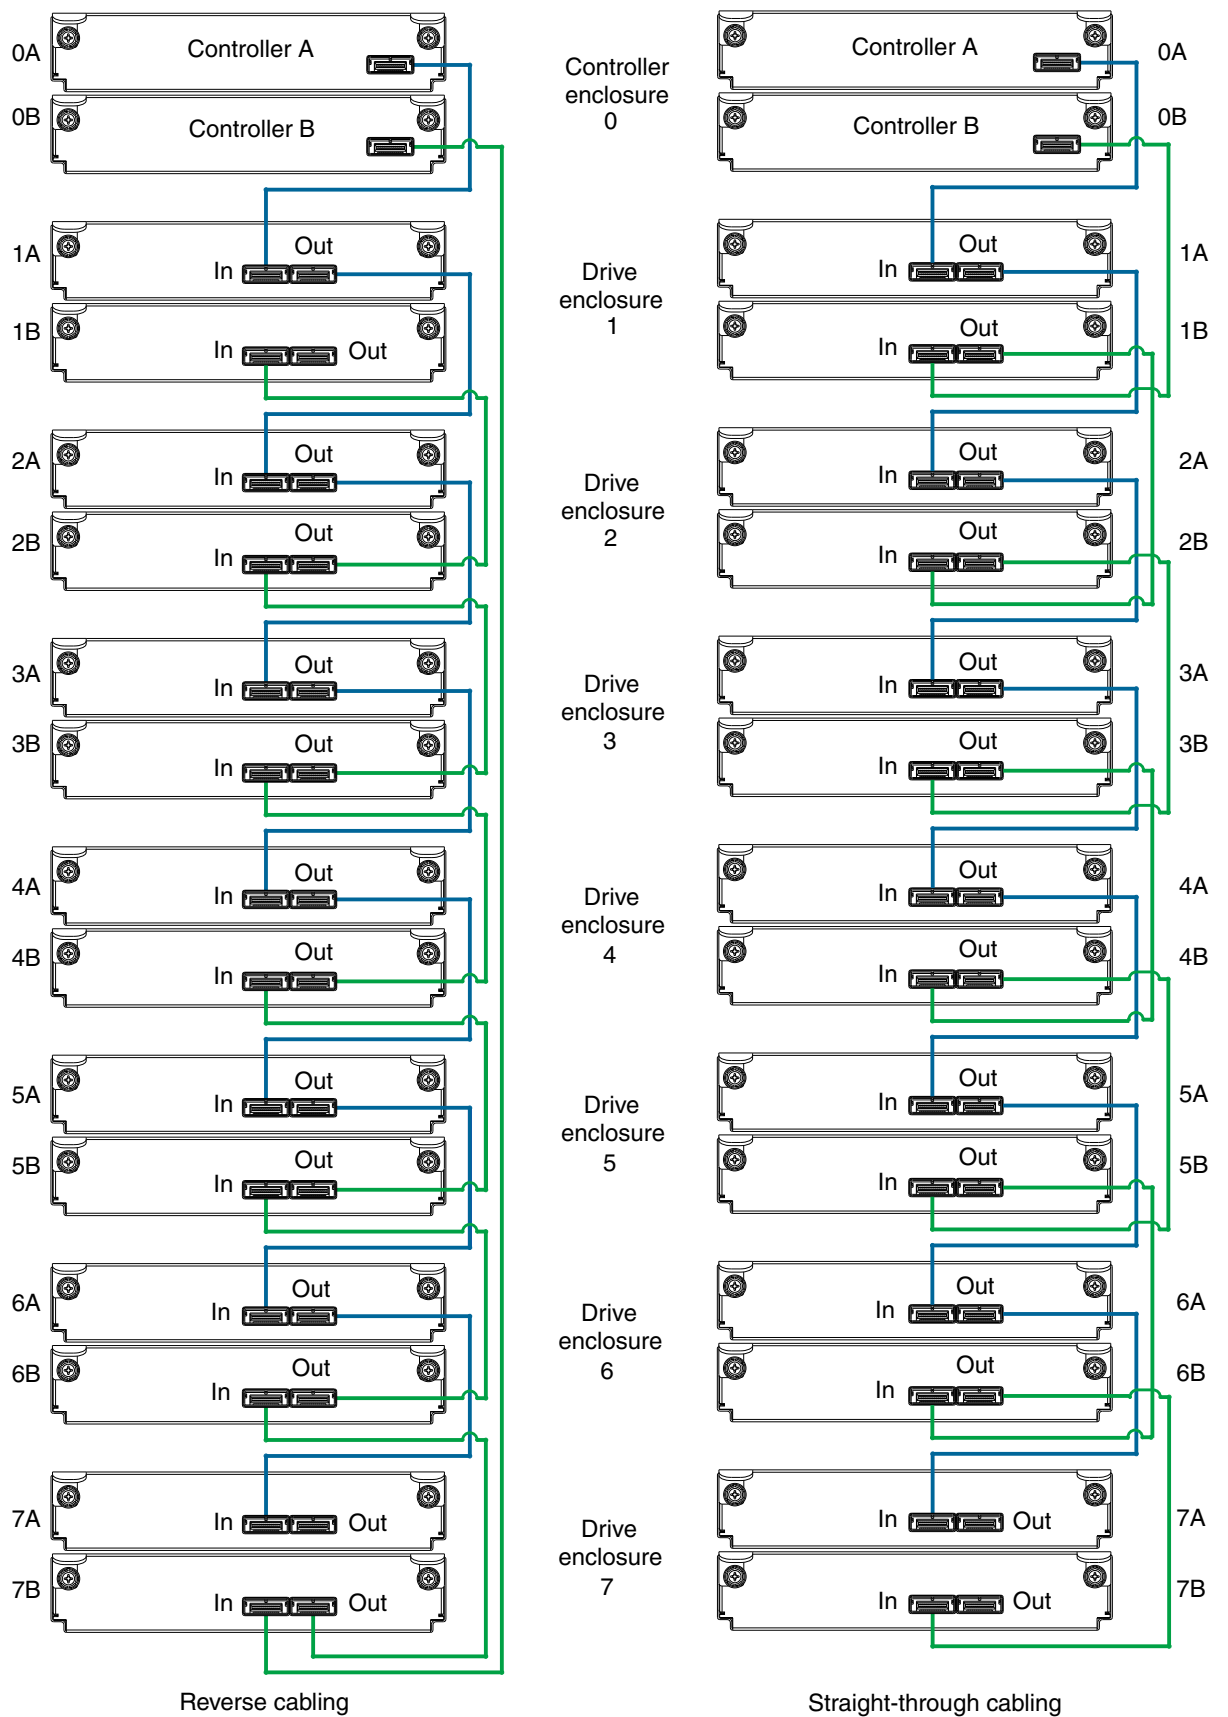

Figure 10 Cabling diagrams for maximum configuration
- You may need to order additional or longer cables when reverse-cabling a fault-tolerant configuration (see Figure 10 on page 29).